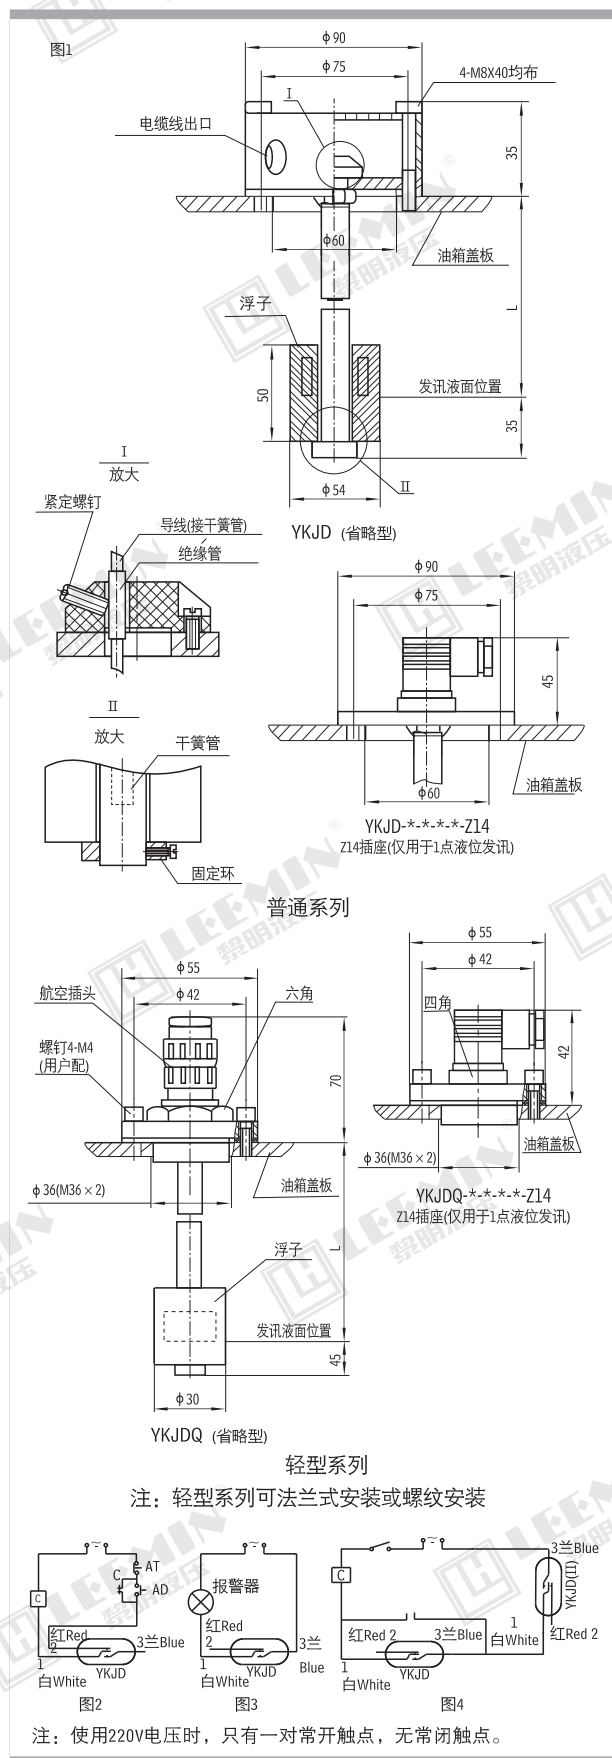

图5
3、图4 是应用在蓄水箱或某些自动控制油箱上实现自动供水或油。图5图6是安装简图，原理如下，当液面低于a1 时，液位控制继电器YKJD  动作（此时YKJD <II> 处于工作状态即1 与3 通），1 与3 接通，中间继电器C 线圈有电流通过（C 的常开触点闭合）供水或供油电机工作；当液位超a1 时，继电器YKJD  动作：1 与3 断开，电流通过常开触点C（此时仍处在闭合状态）使供水或油电机继续工作；当液面超过a2 时，继电器YKJD <II> 动作：1 与3 断开，供水或油电机停止工作，以后随液面下降，YKJD <II> 动作：1 与3 接通，但YKJD  的1 与3 仍处在断开状态，所以供液电机仍不工作，直到液面降到a1 以下时，供液电机重新启动。
3. The figure 4 is applied on water accumulator or some auto. control oil tanks to realize auto. Water or oil supplies. The figure 5 and 6 are installation diagrams with the following principle: When the liquid level is lower than a1, the liquid level control relay YKJD(I) acts(at this time, YKJD(II) is under work condition, that means 1 and 3 are put through), 1 and 3 are put through, the current passes the C coil of intermediate relay (normally open contact of C is closed) to make water or oil supply motor work; When the liquid level exceeds a1, the relay YKJD(I) acts; 1 and 3 are cut off, the current passes though the normally open contact C (at this time, it is still under closed state) to make water or oil supply motor continuously work; When the liquid level exceeds a2, the relay YKJD(II) acts; 1 and 3 are cut off, water or oil supply motor stops working, then it descends with the liquid level, YKJD(II) acts; 1 and 3 are put through, but 1 and 3 of YKJD (I) are still under the cut-off state, so liquid supply motor does not work yet, the liquid supply motor restarts until the liquid level descends below a1.